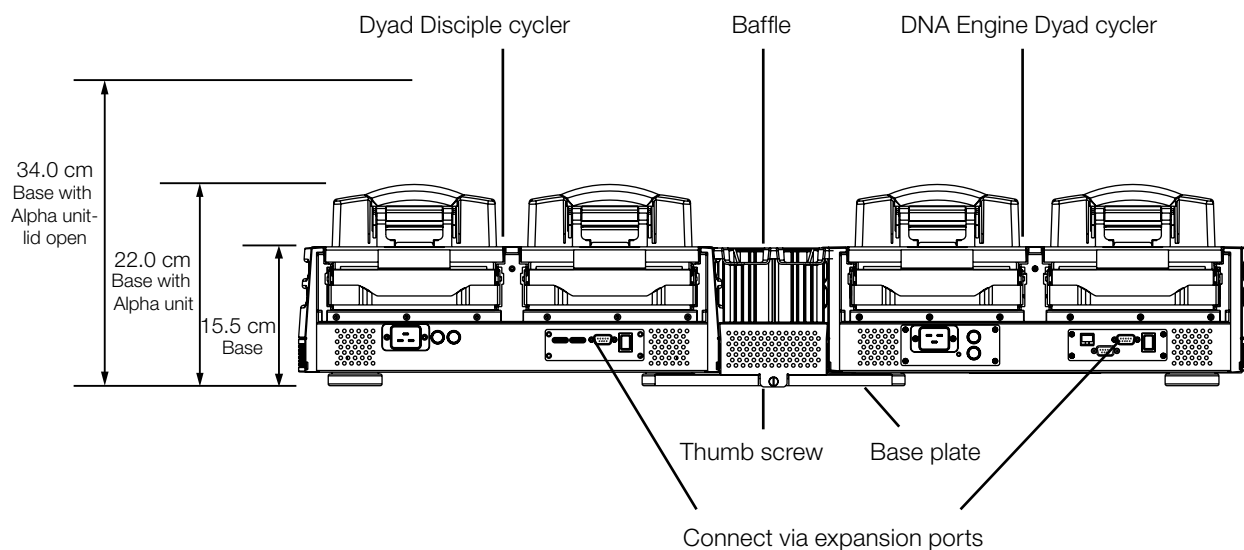

Figure 3B. Rear view of the linear configuration.
7. Use the expansion cable provided with the Dyad Disciple cycler to connect the two cyclers via their expansion ports (see figure 3B).